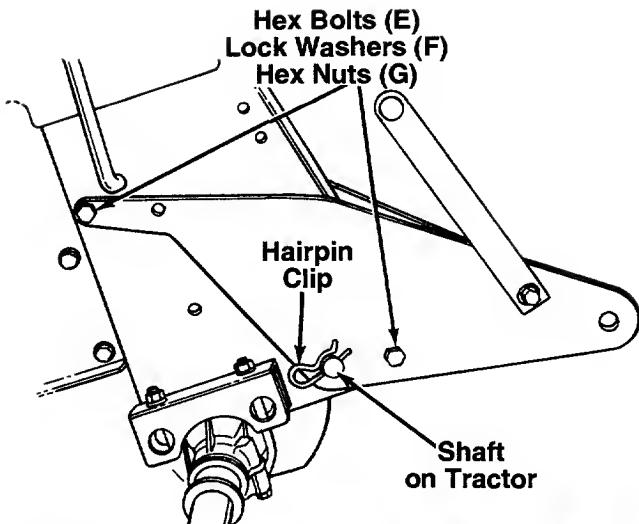
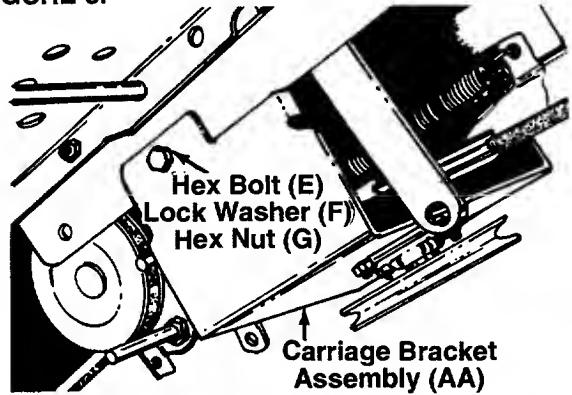

FIGURE 5.
FIGURE 6.
4. Place the support pivot bracket (with idler bracket and support arm attached) in position on the rear left hand side of tractor. See figure 5. Place large hole in pivot bracket over shaft on tractor. Secure with one hairpin clip removed in step 3.
6. Align the holes in the support pivot bracket with the holes in the tractor frame. Secure the support pivot bracket to the tractor frame with hex bolts (E), lock washers (F) and hex nuts (G) as shown in figure 5.
9. Secure end of idler bracket support arm assembly on the right side of tractor with one flat washer (D) and hairpin clip (J).
10. Place carriage bracket assembly (AA) in position beneath the running board support rod on the tractor so belt will attach to engine pulley. Secure each side of carriage bracket to frame with hex bolts (E), lock washers (F) and hex nuts (G). ← Tighten securely. See figure 6.